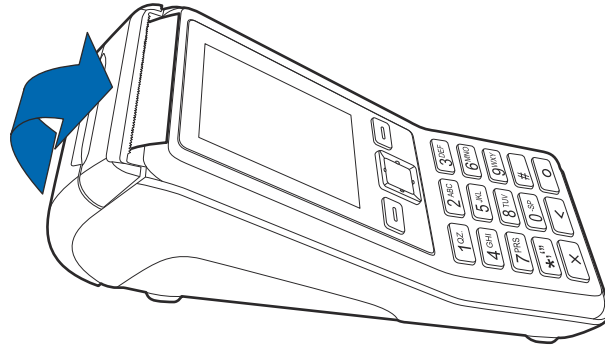

Figure 8 Closing Paper Roll Cover
- 7 Close the paper roll cover by gently pressing directly on the cover until it clicks shut, allowing a small amount of paper past the glue residue to extend outside the printer door (see Figure 8).